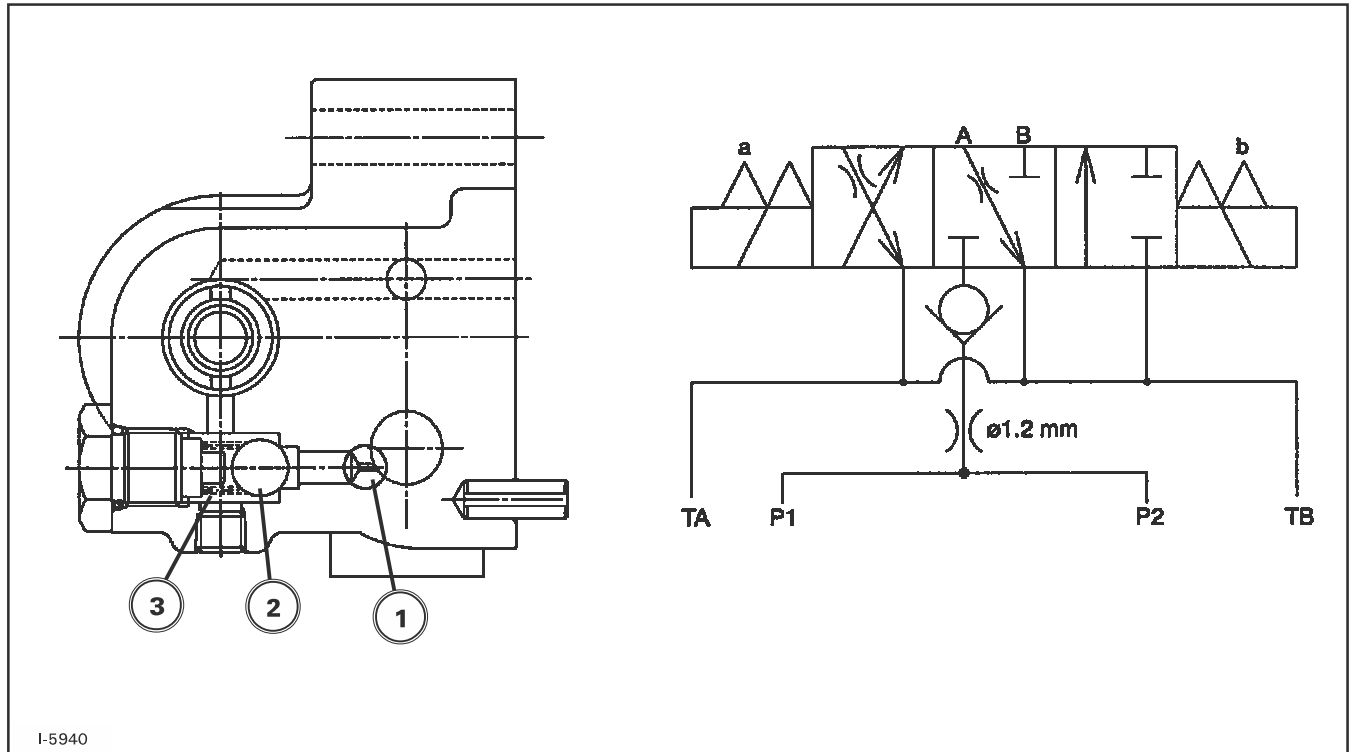

FIG. 5A-19 PTO Valve
**FIG. 5A-19:** The half engagement (half pressure) condition is maintained for about 1.1 seconds. Then the solenoid on "SOL b" side is energized, the spool shifts to the left, port A becomes the supplying port and port B is blocked. Then the pressure rises to the preset level by the reducing valve and the clutch becomes fully engaged. Steel ball, 2, prevents the contacting pressure of the clutch from falling due to the checking mechanism, even when line pressure drops momentarily.